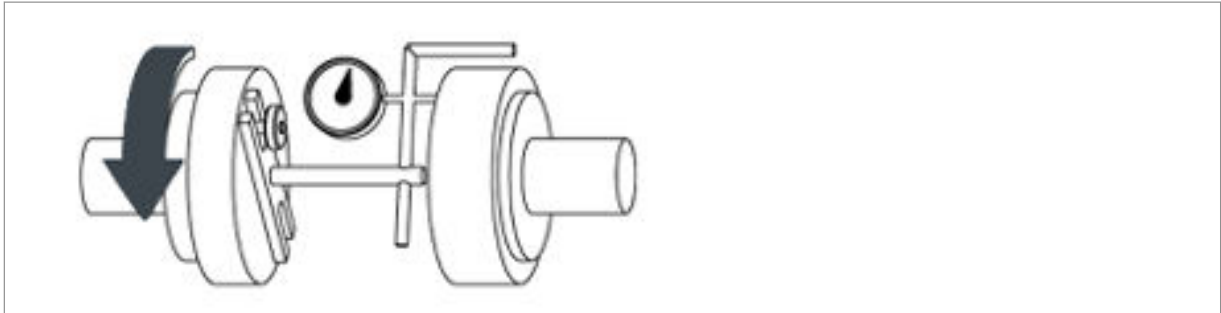

Fig. 22: Checking the angular offset
- Carry out measurement as shown (Fig. 22).